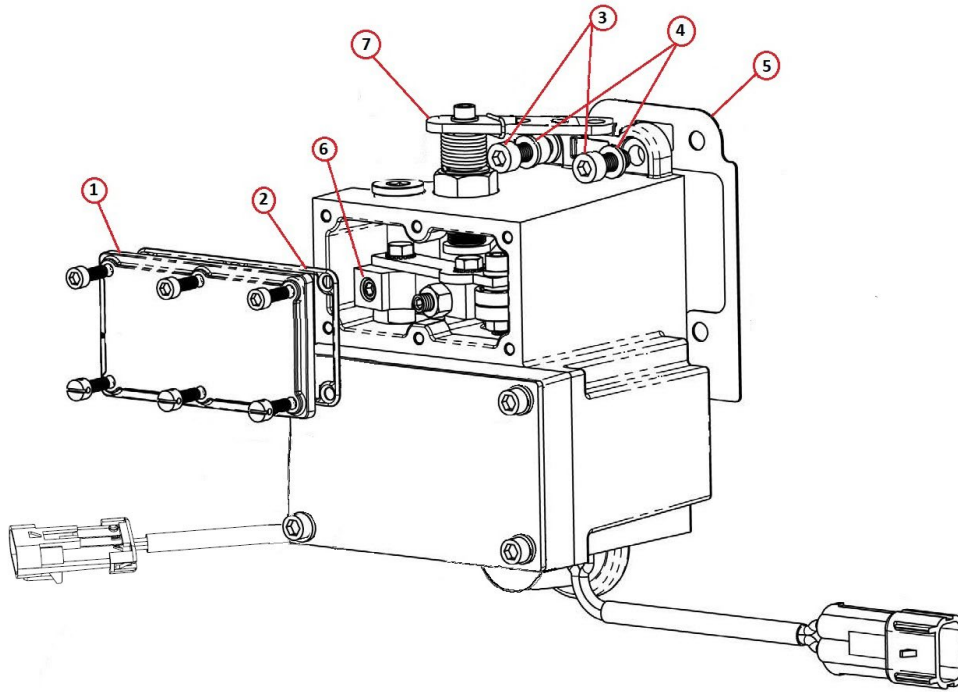

FIGURE 7 ACTUATOR MOUNTING
1. Remove the upper actuator cover, Figure 7 (1), and O-ring seal (2). Save all hardware.
3. Insert two M6 X 16 mm long screws and spring washers, Figure 7 (15), through the lower mounting holes inside the upper actuator cavity.
4. Align the gasket, Figure 7 (5), and install it over the two screws and carefully slip the actuator over the fuel rack assembly until the two lower screws just start to meet the fuel pump mounting holes.
5. Insert a ball end hex wrench through the access point located on the operating lever, Figure 7 (6), and tighten the left lower mounting screw (15) a few turns.
7. Once these two screws are fully engaged (do not tighten at this time) into the pump housing, insert two additional M6 X 16 mm long screws, Figure 7 (3), and spring washers (4) into the top two mounting holes of the actuator and thread into the pump housing.
10. Verify that the fuel rack assembly moves in and out freely inside the upper cavity of the actuator by moving the fuel shutoff lever, Figure 7 (7).